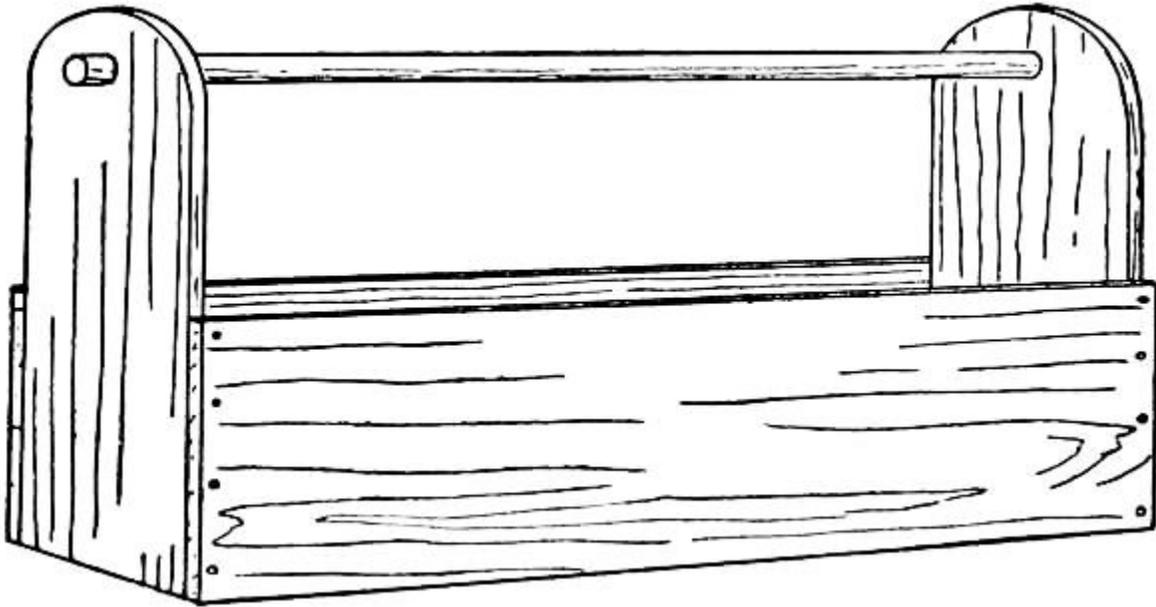

FIG. 17.—A Carpenter's Carrying-box.
**A Carpenter's Carrying-box** should be made. Such a box is shown in Fig. 17. The box should be about twenty-seven inches long to accommodate the saws, and it would be well to make the width eight inches and the height sixteen inches. First prepare the end-pieces, making them six by sixteen inches and rounding the tops with the compass-saw, as shown in the illustration. Then cut a board twenty-five inches long by six inches wide for the bottom and nail the end-pieces to the ends of it. Make the side-pieces twenty-seven by eight inches, and nail them to the end-pieces and to the edges of the bottom board. The handle consists of a broom-stick fitted into holes bored near the tops of the end-pieces.